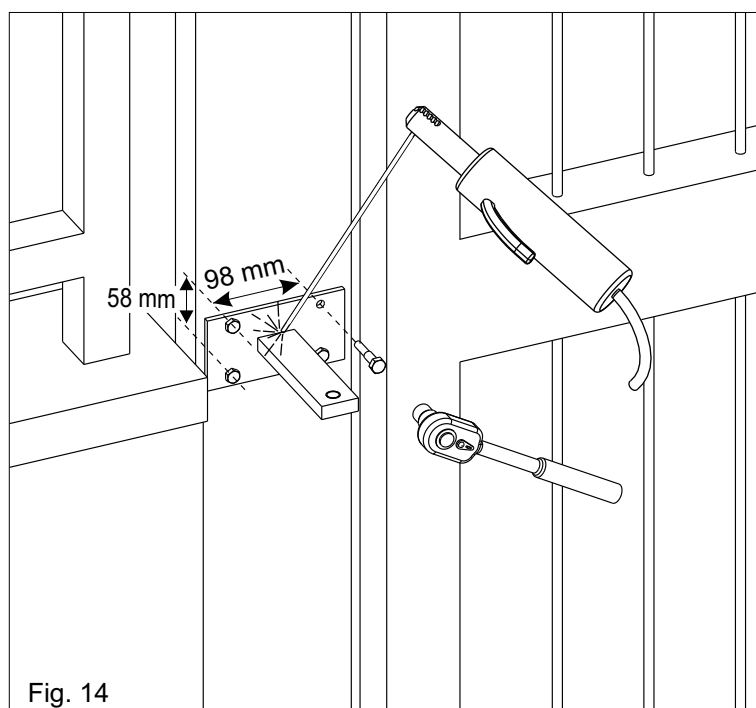
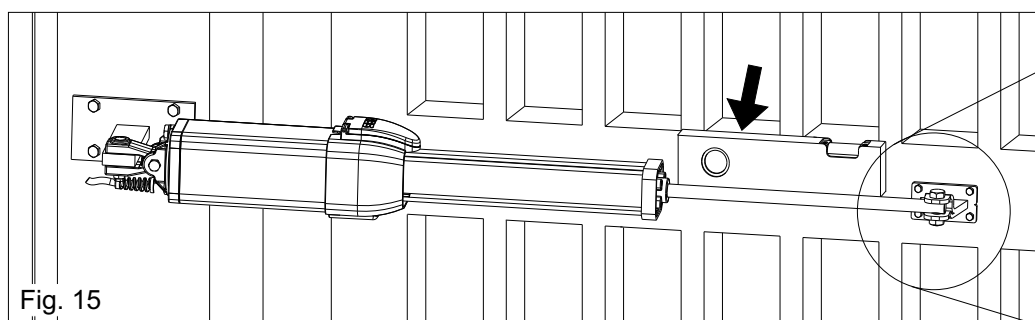

Fig. 14
Fig. 15
According to the chosen opening type (inside or outside) and according to the chosen max. rotation of the leaf (see page 21-22) the bracket must be first cut respecting the mesurment "a" on pag. 21-22 and than welded as in fig.14.
The support must be positioned so that the operator is in perfect horizontal position (Fig. 14, Fig.15).
- 4) Position the operator perfectly horizontal and mark the position of the front fixation (Fig. 15).